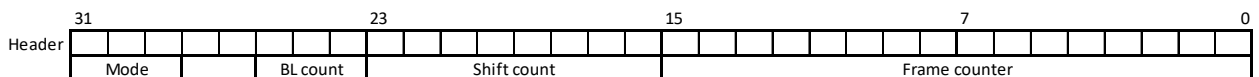

Figure 17: Bitmap data packet header
A packet transfer starts with the header (Figure 17). It shows in the first 16 bits the frame counter of the measurement, in bit 16-18 the counter of backlight (BL) measurement and in bit 29-32 the acquisition mode.